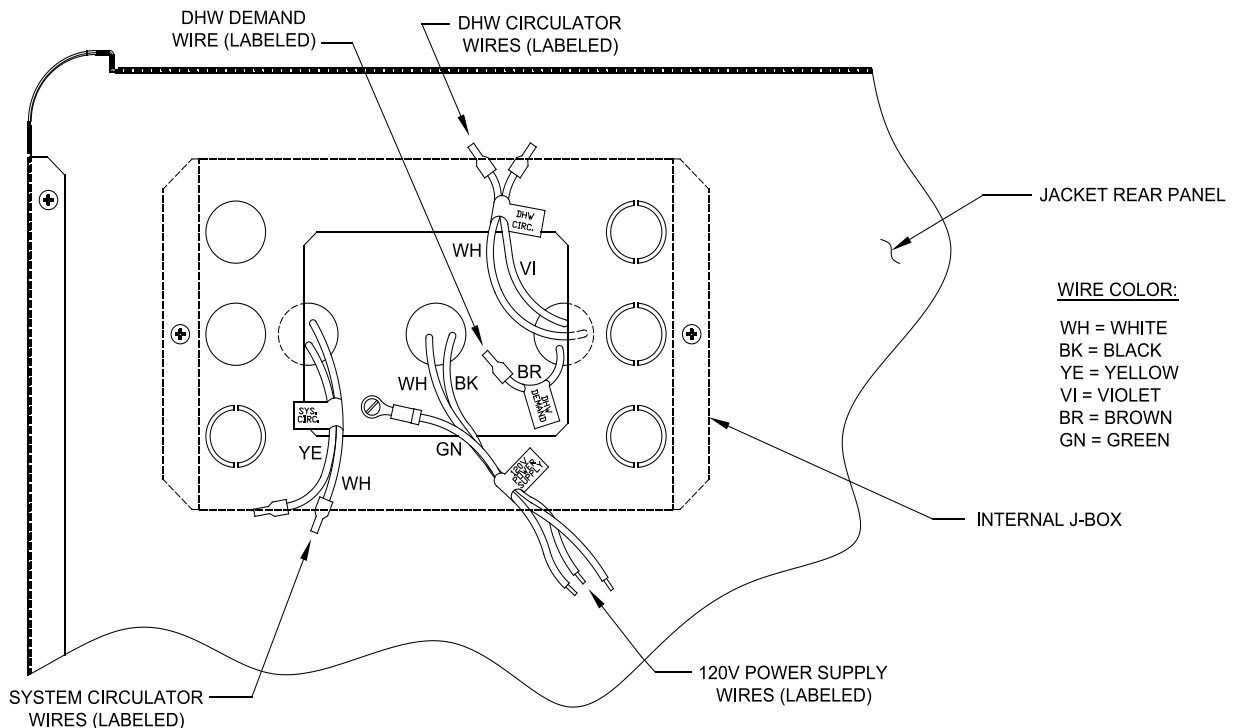

Figure 7: Internal Junction Box and Wiring Harness Details
3. Connecting field wiring, refer to Figures 7, 28A thru 28C.
Step a. Locate the black, white and green harness wires labeled "120V Power Supply" inside internal junction box, see Figure 7. Using wire nuts, connect the 120 volt power supply field wires to the harness wires.
Step b. Locate the yellow and white wires labeled "System Circulator" inside internal junction box, see Figure 7. Using wire nuts, connect the 120 volt field wires to the harness wires.
Step c. If applicable, locate the violet and white wires labeled "DHW Circulator" inside internal junction box, see Figure 7. Using wire nuts, connect the 120 volt field wires to the harness wires.
Step d. If applicable, locate the brown wire labeled "DHW Demand" inside internal junction box, see Figure 7. Using wire nut, connect the 120 volt field wire to the harness wire.